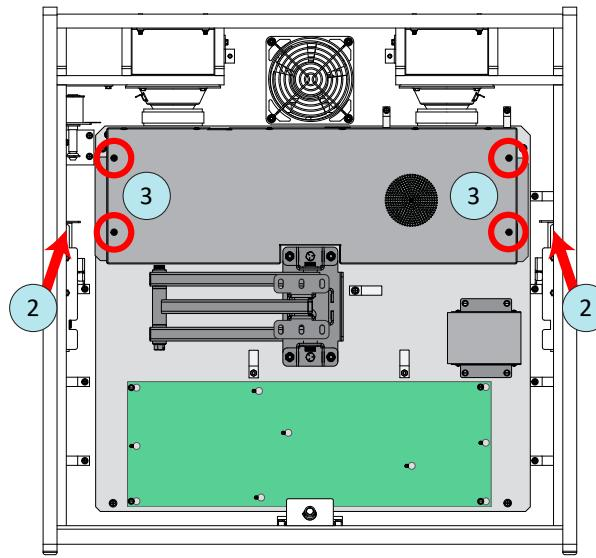

Figure E7. Removing PCB chassis lid.
- 1) With the game off, open the coin door and locate the keys to the backbox lock (hanging on a hook, alongside one of the coin mechanisms). Unlock the backbox lock (item 2 on pg C-45), slide the backglass upward and remove it, bottom edge first. Carefully set it aside.
- 2) Release the 27" LCD monitor, by lifting the two latches, top left & right (red arrows, figure E7), while carefully pulling the screen straight out of the backbox. Extend the screen outward, then swing it over to either side of the backbox.